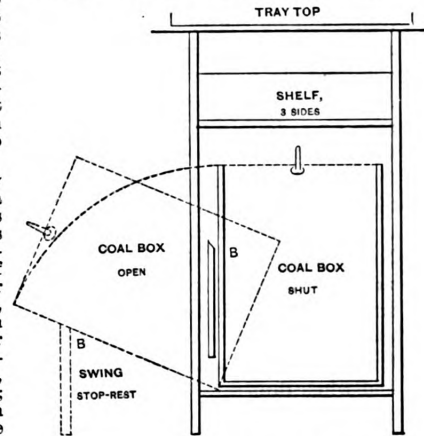

Fig. 2.—Vertical Section Through Table and Coal Box, Showing Internal Construction.
The coal box, shown in Fig. 2, is a simple affair, and needs no description as to its construction, except to say that the worker must remember to fasten the sides on to the bottom, not the bottom on to the sides, or the rough usage of filling it with coals will soon loosen it; also, it should be fitted on its front base with a round iron rod, which, in its turn, fits into a slotted wooden bar on each side loose enough to be easily dropped into position or removed. The front of the box must also be fitted with a hinged stop piece (B) about 6 inches wide (Fig. 2), so that when in use, as the coal box works on the bar it falls and forms a rest at a convenient angle and renders the upsetting of the box impossible. By these two arrangements no jar or strain is thrown upon the table, the motion being at the same time very convenient.